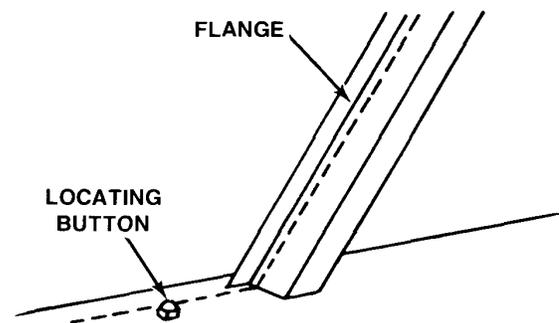

Figure 5C. Step Two.
**STEP 2** - Lift up glass above locating button and pull away from flange on corner posts. See Figure 5C.